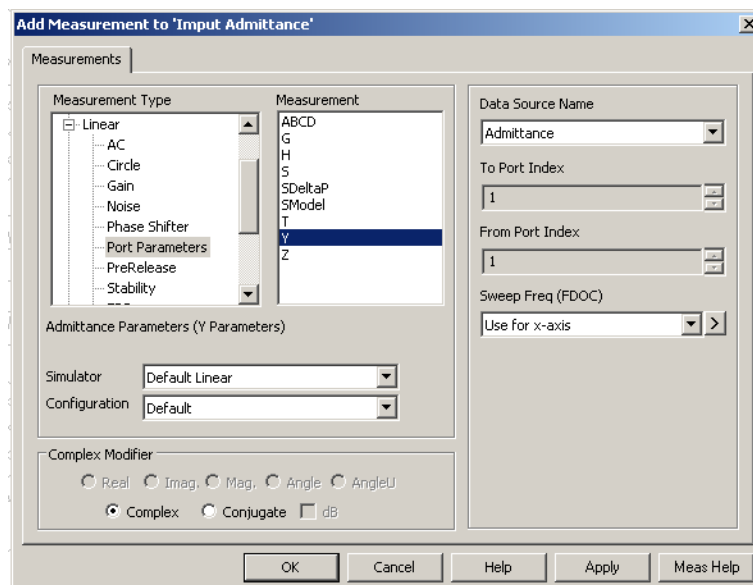

Figure 7.11: Chart 5 : Add Measurement Dialogue Box for Input Admittance
- Change your measurement dialogue box to match figure 7.11.